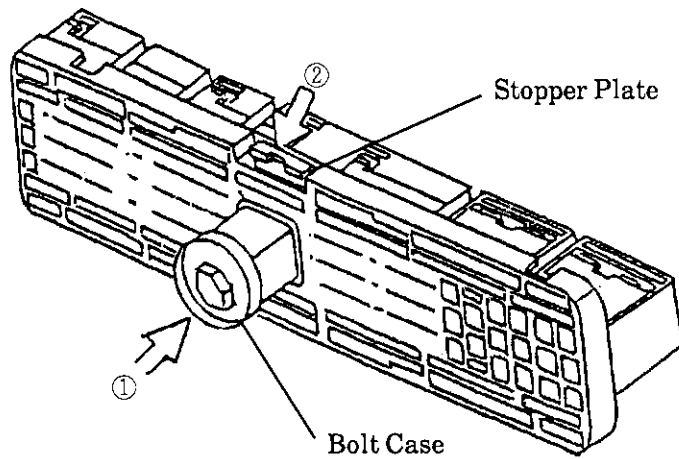

Fig. 11
- (1) As shown in Fig. 11, insert bolt case into the hole of connector as far as it stops as shown in Fig. 11, then depress the stopper plate of the bolt case to bottom until it stops in the hole.